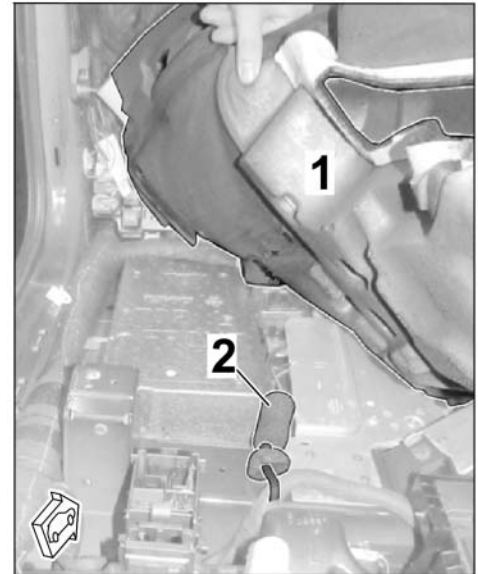

Figure 20
2.3.4 Loosen left front floor covering and fold it up as far as possible (⇒ *Figure 20*). ⇒ *Workshop Manual '704119 Removing and installing front floor covering'*